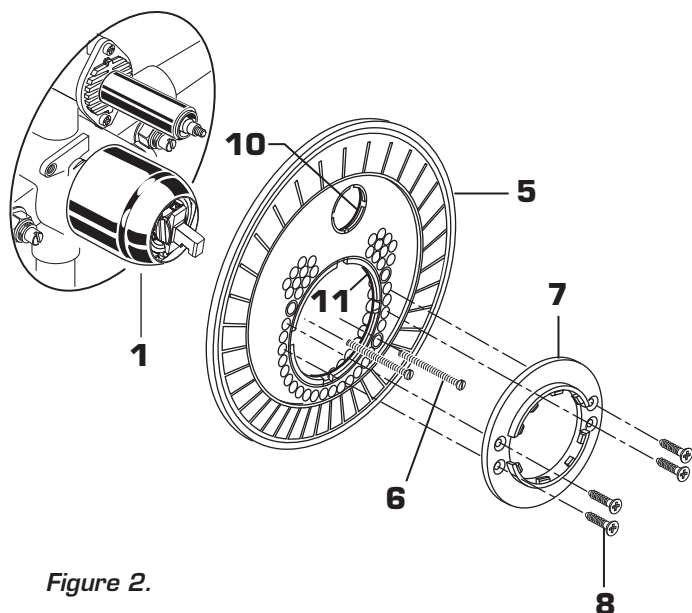

Figure 2.
- **Figure 2.** Make sure O-RINGS (10 & 11) are secure within ESCUTCHEON HOLDER (5). Push ESCUTCHEON HOLDER (5) onto CAP (1) and attach to valve body with SCREWS (6). Mount ESCUTCHEON SUPPORT (7) to ESCUTCHEON HOLDER (5) with SCREWS (8).